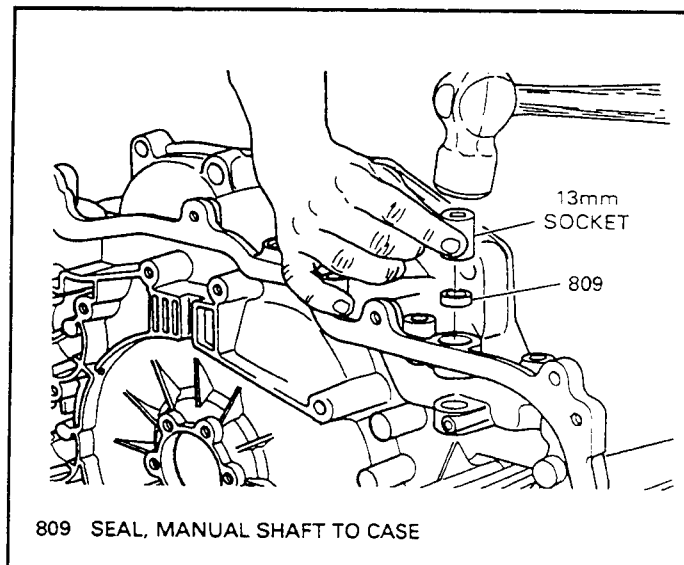

Figure 90
18. Install a new manual shaft seal into the case bore using a 13mm deep socket, as shown in Figure 90.